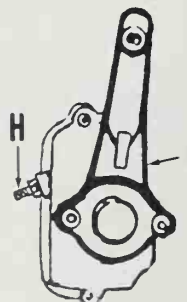

Fig. W1-2—View showing location of high speed adjusting screw (H). Idle speed screw is located behind speed control lever at (I).
Idle speed is adjusted by turning idle speed screw (I—Fig. W1-2) and high speed is adjusted by turning high speed screw (H). Idle speed should be 1500-1800 rpm while maximum governed speed under load may be 2200 or 3000 rpm depending on engine application.